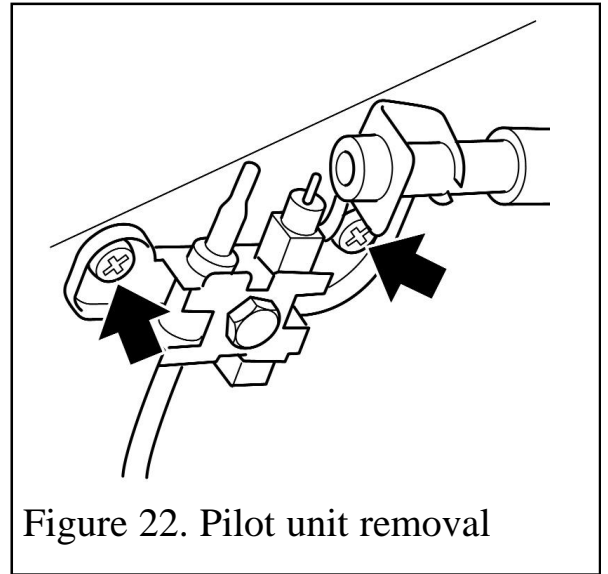

Figure 22. Pilot unit removal
6. Remove the two screws securing the pilot unit (See figure 22).